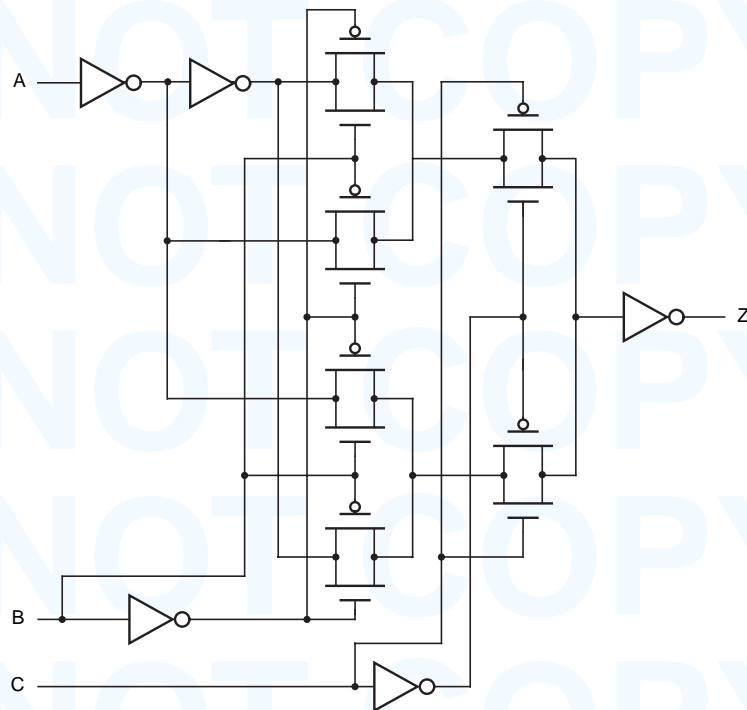

Figure X5.73
- 5.73 Write the truth table and a logic diagram for the logic function performed by the CMOS circuit in Figure X5.73.